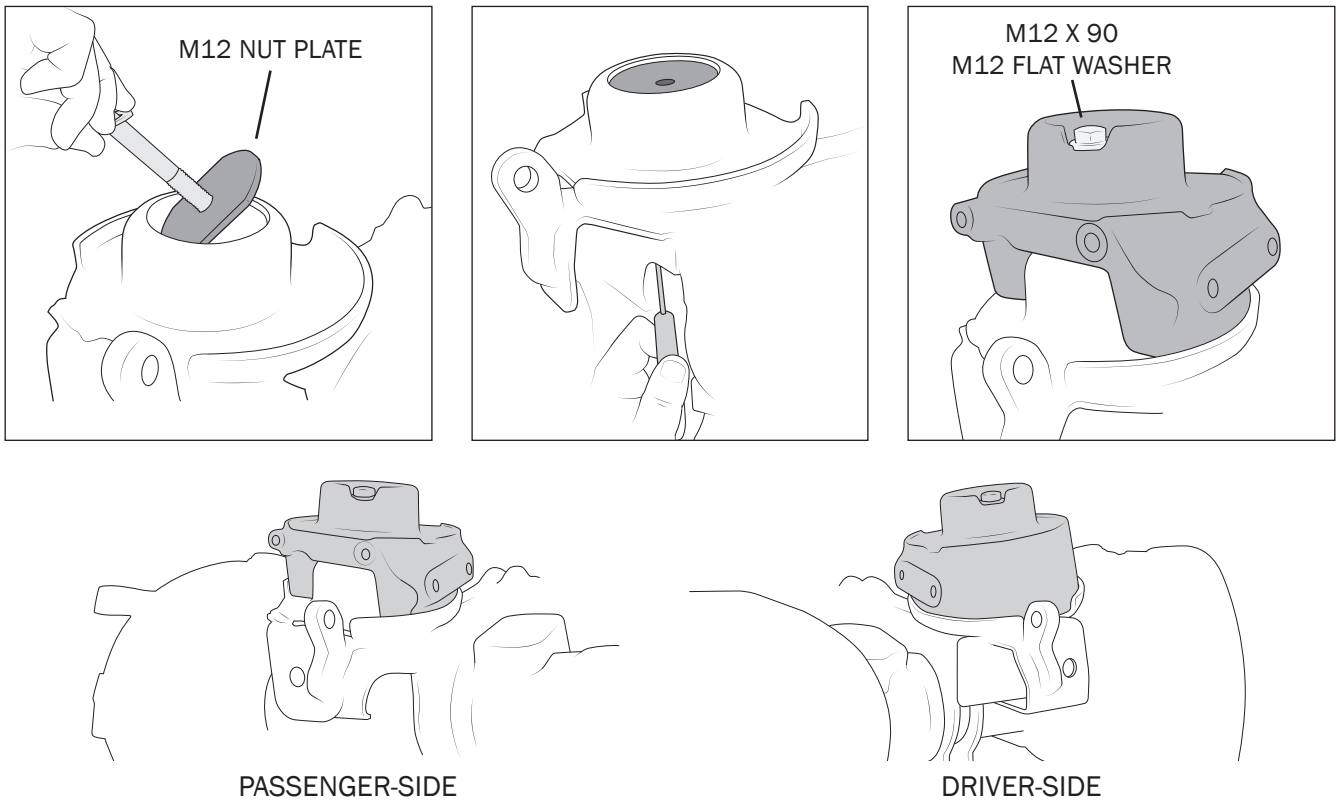

Figure 14
- 4. Install AEV coil spring mounts to the axle using hardware bag #2. Leave loose at this time (fig. 14).